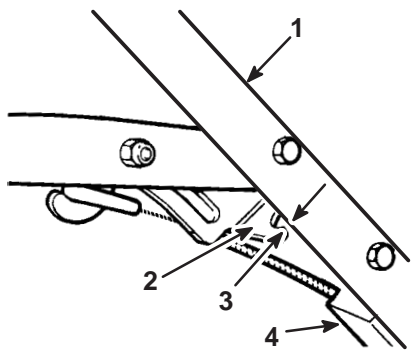

Figure 24
2. CHECK ADJUSTMENT (Fig. 24 & 25)—Move control bar toward handle until slack in wire is removed. Gap between brake lever and handle must be $3/16''-1/4''$. See Step 3 for adjustment.
Self-propelled Model (Fig. 24)